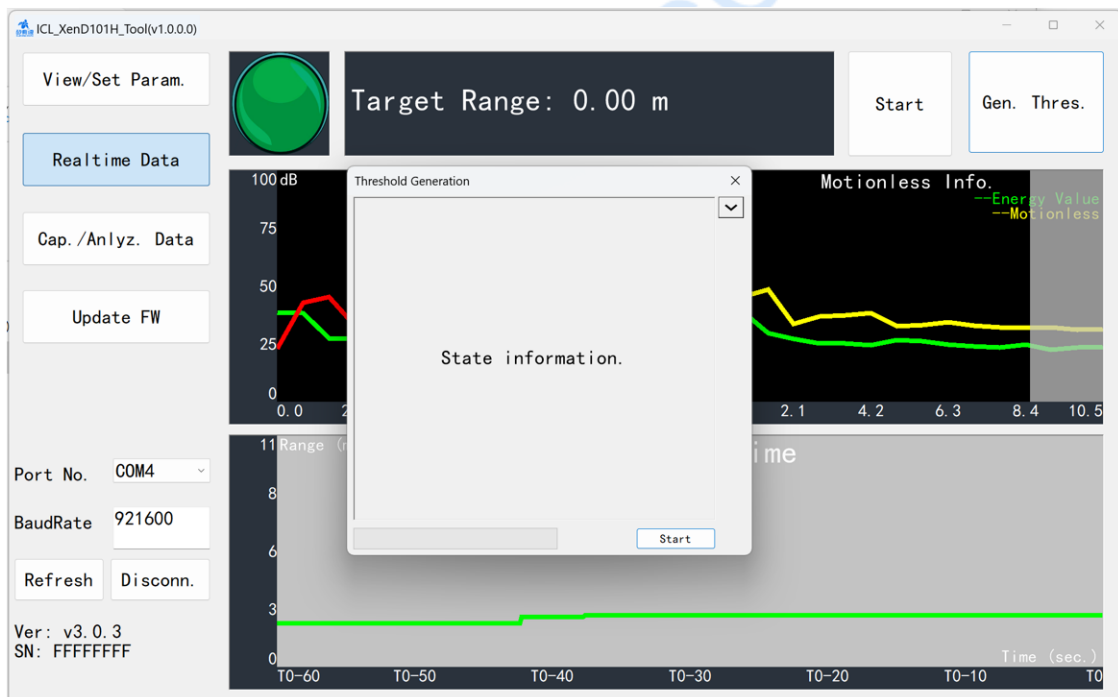

Figure 4-6 Threshold Generation page
Step 2: On the Threshold Generation window, type in the Trigger and Hold Threshold Coefficients, and click **Start/Close** button, the visualization tool starts computing trigger and hold thresholds, and the progress bar and the text below starts displaying the progress in real time, as shown in Figure 4-6;